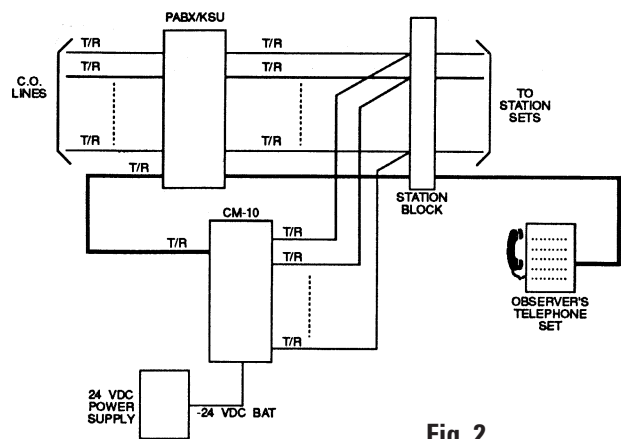

Fig. 2
- 2.03 **Central Office/Trunk Ports** may also be used to access the CM-10. By restricting access to that particular trunk, only designated stations will be allowed to monitor. Figure 2.